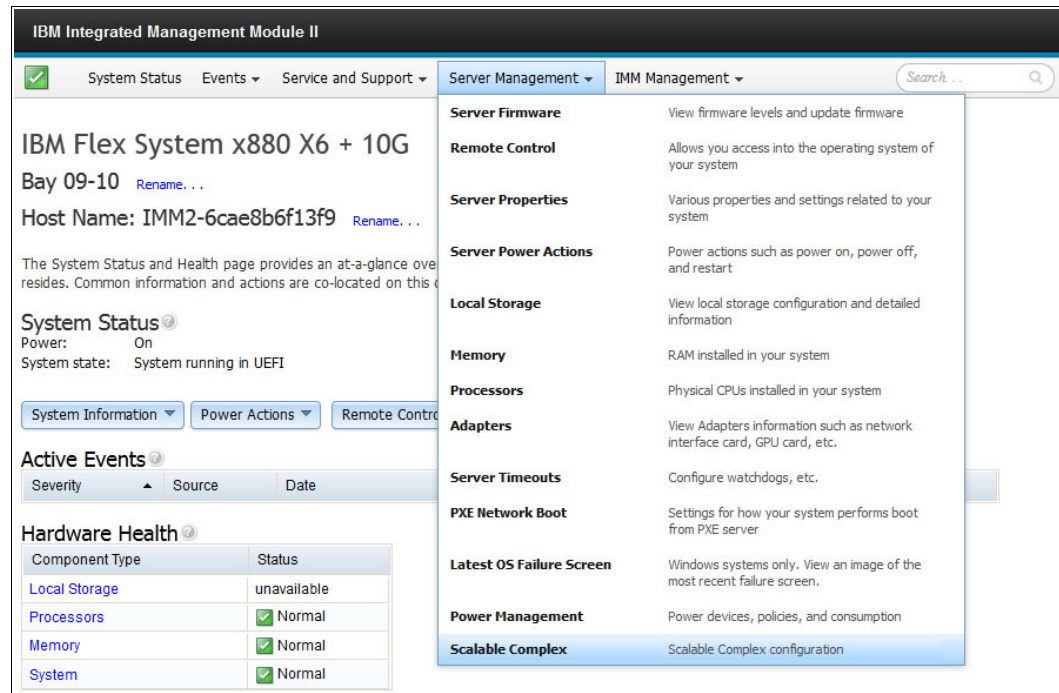

Figure 5-37 Scalable complex server management in IMM web interface
1. From the IMM web interface, click **Server Management** → **Scalable Complex**, as shown in Figure 5-37.
2. After the partition is shut down, navigate to the Scalable Complex window from the IMM shown in Figure 5-37 on page 104. Verify that all the nodes in the partition are in a *Powered off* status. Select the partition and from the Partition Actions drop-down tab, and then select Remove Partition, as shown in Figure 5-42.